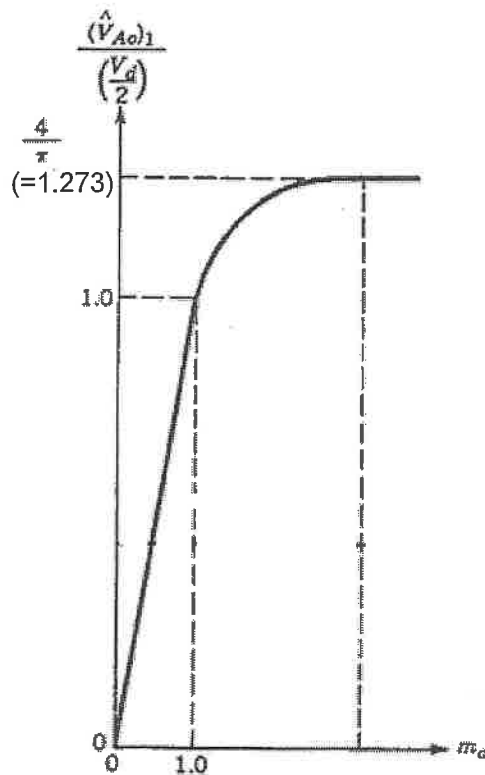

Figure 4.2
- In a certain application, the available dc input voltage to this inverter is 600 V. The required fundamental frequency of the output voltage is 50 Hz. It is also required to maintain the switching frequency f_s to 1450 Hz and the amplitude modulation ratio m_a to 0.8. Answer the following questions with the help of Figure 4.2,
whenever necessary. Note that all the notations have their usual meaning in Figure 4.2.
- Q5 a) A three-phase load is supplied by a three-phase inverter. The dc input voltage to the inverter is 600 V. Answer the following questions with the help of Figure 4.2, whenever necessary. Note that all the notations have their usual meaning in Figure 4.2.